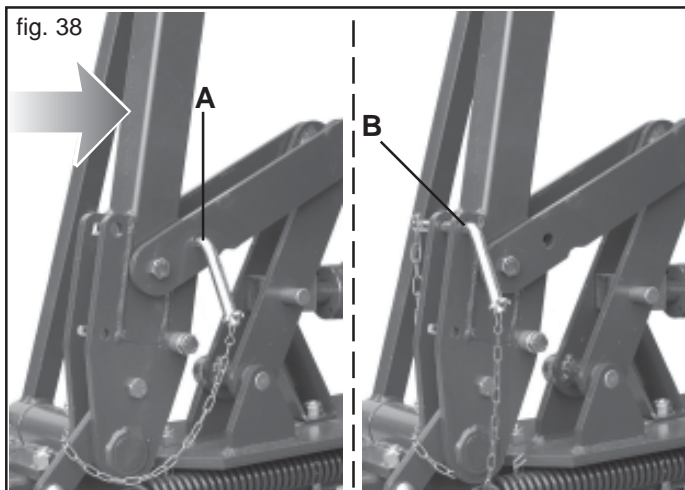

fig. 38
Before operating the hydraulic system of the row marker, apply light pressure with your hand on the row marker arm in the direction of the arrow (Fig. 38), unhook the safety devices on both the arms (A Fig. 38), and then position them as shown in Figure 38 (B). For travel on the road, lock the row marker arms in a vertical position with the safety devices (A Fig. 38).
- Release the safety devices (Fig. 38) and open the row marker arms manually until they sit on the ground.